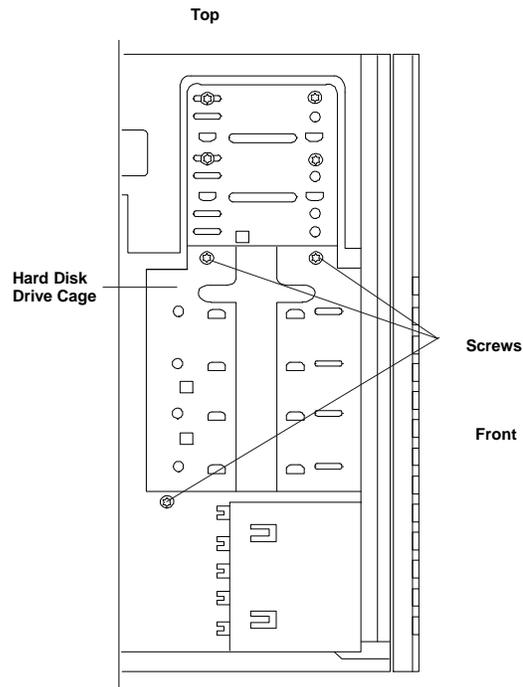

Figure 4-2. Captive Screws Holding the Hard Disk Drive Cage
5. Loosen three captive screws on the mass storage cage (see Figure 4-2).